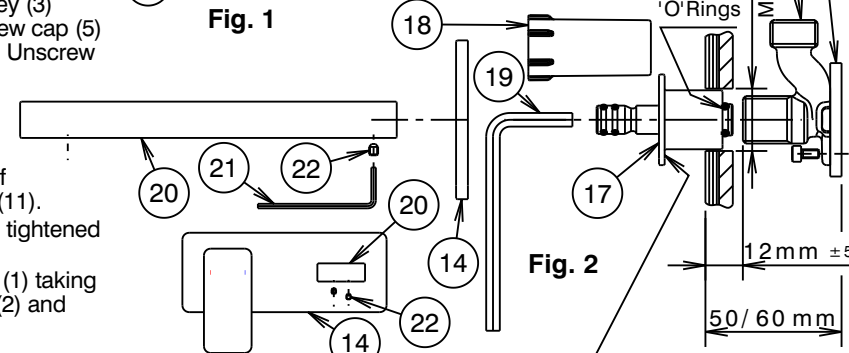

Fig. 2
- When completing the installation, remove & discard cap (18). Apply a bead of sealant to the back face of retainer (17) (See Fig.2). Screw retainer (17) onto G1/2B thread of lugged elbow (25) by hand up to the wall/tile face, taking care that 'O'Rings are not damaged as they enter bore of lugged elbow (25). Tighten retainer using 6mm allen key (19), so that sealant on retainer is compressed to provide a watertight joint & the retainer has bottomed against the wall/tile face. Wipe clean any excess sealant.